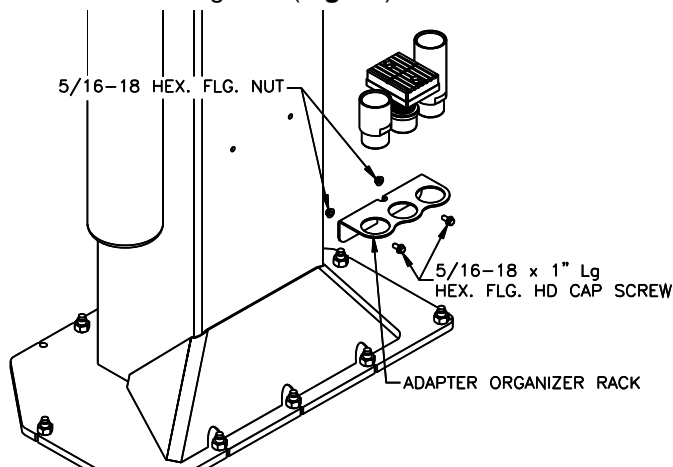

Fig. 19-Adapter Rack Installation
- 39) Locate the two pre-drilled holes on the back of each column 19" up from the top of the base plate. Center the adapter rack and attach with 5/16"-18NC x 1" Lg hex flange cap screw and 5/16" hex flange nut (**Fig. 19**).